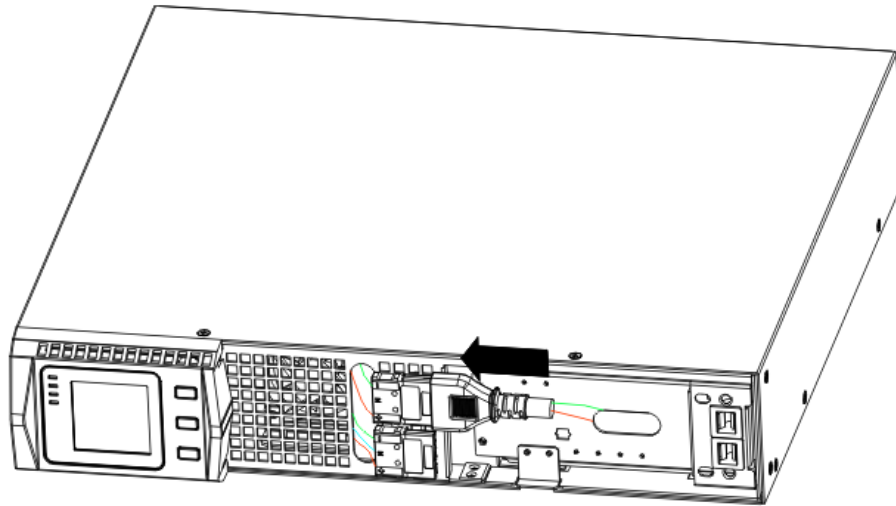

Figure8 Connecting the UPS Internal Batteries
2. Connect the internal battery connector (see Figure 8)